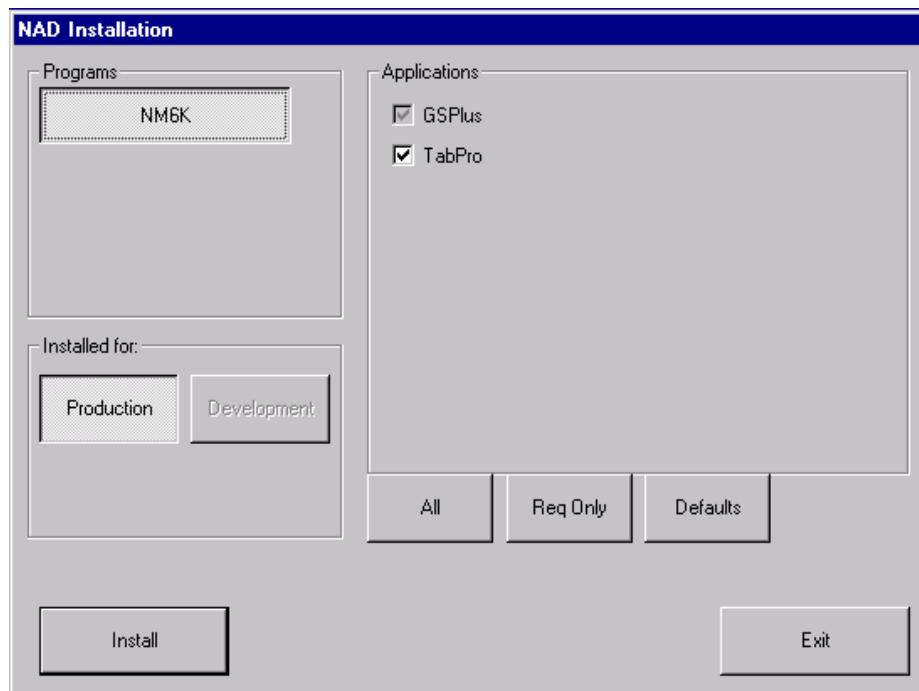

FIGURE 30. NAD Installation Dialog
- 8.61 On the 'NAD Installation' dialog, ensure that 'NM6K is selected as the program. See Figure 30.